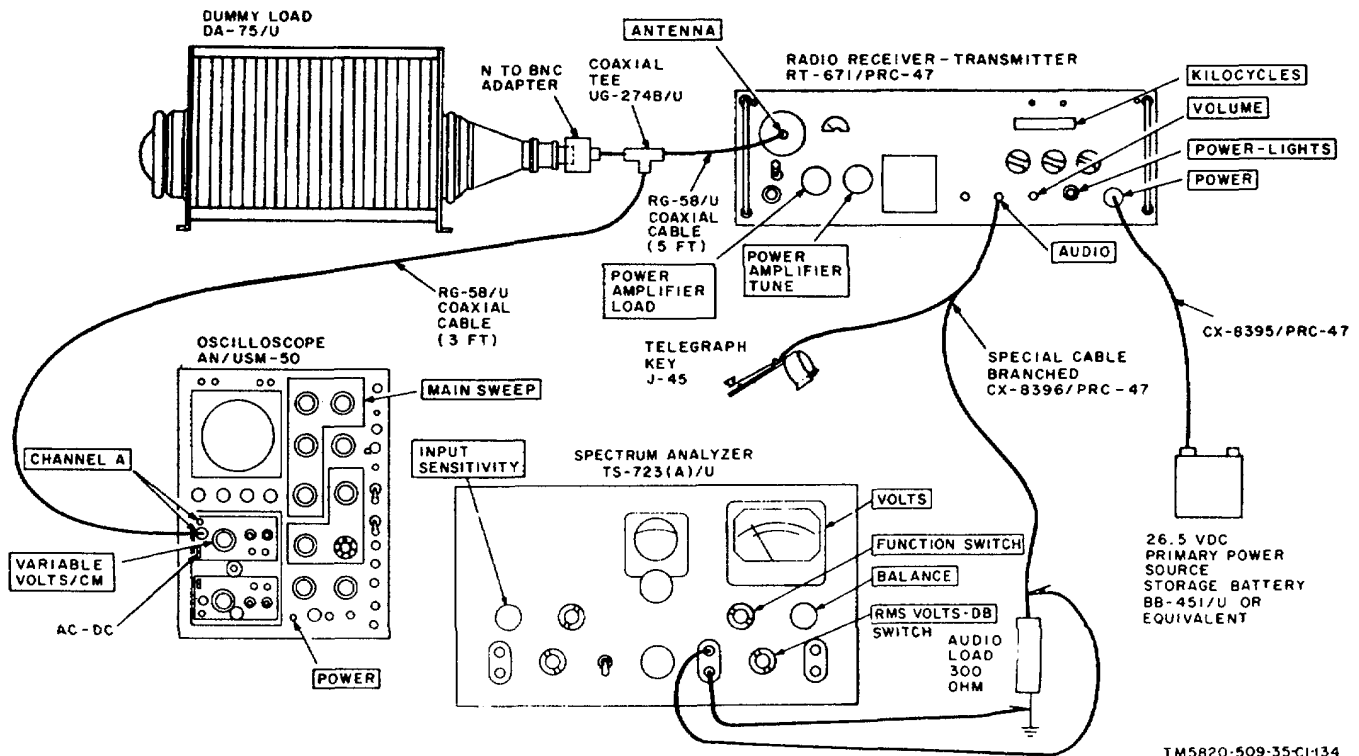

Figure 4-7. Transmitter CW Operation and Sidetone Test, Equipment Setup
(fig. 4-7)
(1) Connect the test equipment to Radio Receiver-Transmitter RT-671/PRC-47 as shown in figure 4-7.
(2) Connect the primary power source to the receiver-transmitter.
(3) Turn on the test equipment and place the POWER-LIGHTS switch on RT-671/PRC-47 to POWER ON. Permit the equipment to stabilize at least 5 minutes before beginning the procedures shown in the chart below.
- (1) Connect the test equipment to Radio Receiver-Transmitter RT-671/PRC-47 as shown in figure 4-7.
- (2) Connect the primary power source to the receiver-transmitter.
- (3) Turn on the test equipment and place the POWER-LIGHTS switch on RT-671/PRC-47 to POWER ON. Permit the equipment to stabilize for at least 5 minutes before beginning the procedures shown in the chart below.